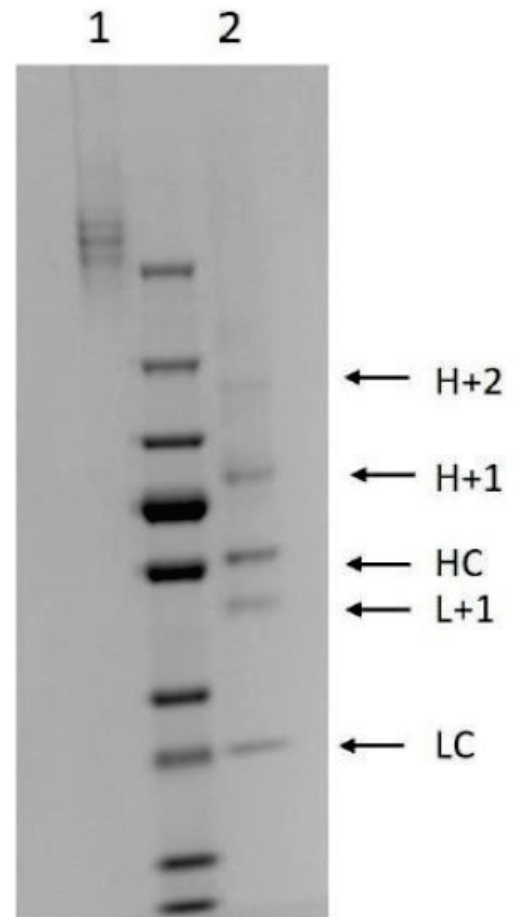

Fig 4.
12.9. Finally, with **10** μg scale conjugation, one would probably be reluctant to run more than **1** μL of conjugate routinely on gels. A typical profile for **1** μL (from an **11** μL scale reaction) under both non-reducing and reducing conditions is shown in **Fig 4**. You may prefer to run **1** μL of sample in just one of these conditions. The non-reduced sample (Track **1**) shows clearly that all antibodies are conjugated (in this case mostly with **1-3** oligos). Following reduction, **L+1**, **H+1** and **H+2** are clearly visible. **H+3** may be absent when only **1** μL of conjugate is analyzed (~ 0.9 μg) in reducing conditions.